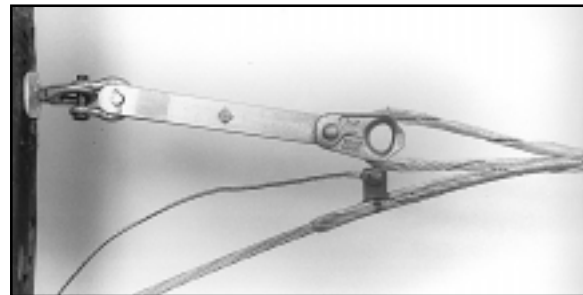

FIGURE 17 - GROUNDING WIRE ASSEMBLY ATTACHED TO CURRENT TRANSFER TAB
5.05 The assembly can be grounded through the Current Transfer Tab. Preformed Line Products offers a Grounding Wire assembly (described in Section 3.00) that can be simply fastened to the hole of the Current Transfer Tab. (Figure 17)